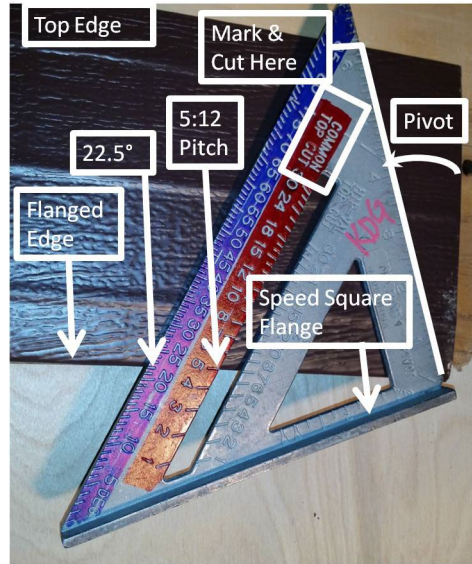

Figure 11-17. Marking Gable Eave End Fascia Angle.
8. Position the flange of a speed square along the soffit flange (or along the edge where the LONG point will be) as seen in Figure 11-17. With the square corner of the speed-square against the edge at the length desired, pivot the speed-square at the 90° corner until the "5" on the "Common/Top Cut" (red) scale is aligned with the same edge (e.g. flanged edge). Draw a line along the short edge of the speed square on the face of the fascia.